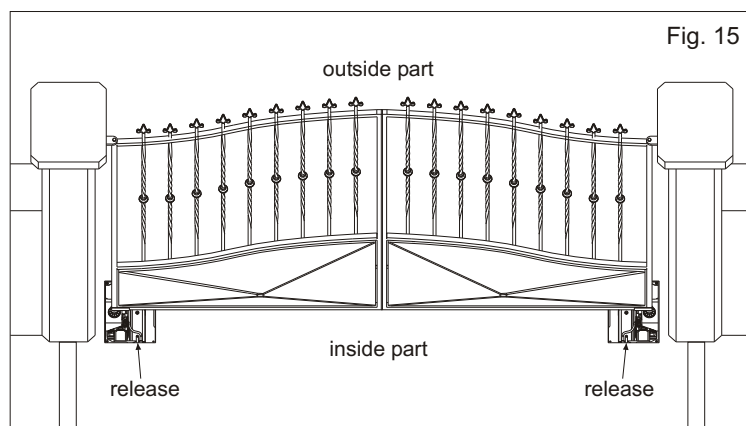

Fig. 15
4.2. It is important to identify the right operator and the left operator, in any case the release system must be always placed inside the place of residence. Make reference to Fig. 15.